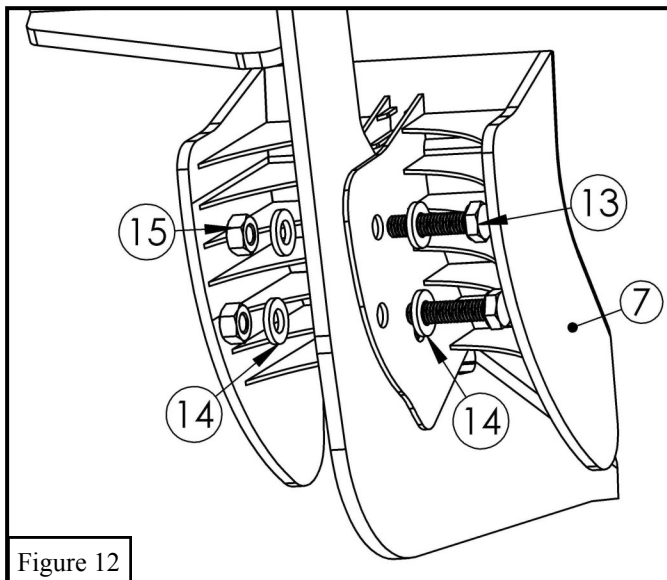

Figure 12
13. Locate (1) plastic bracket cover (Item 7) and loosely secure it to the (6) brackets using the provided hardware: (2) M6 hex head bolts, (4) M6 flat washers, and (2) M6 nylock nuts (Items 13-15). Repeat for every bracket. See **Figure 12**.